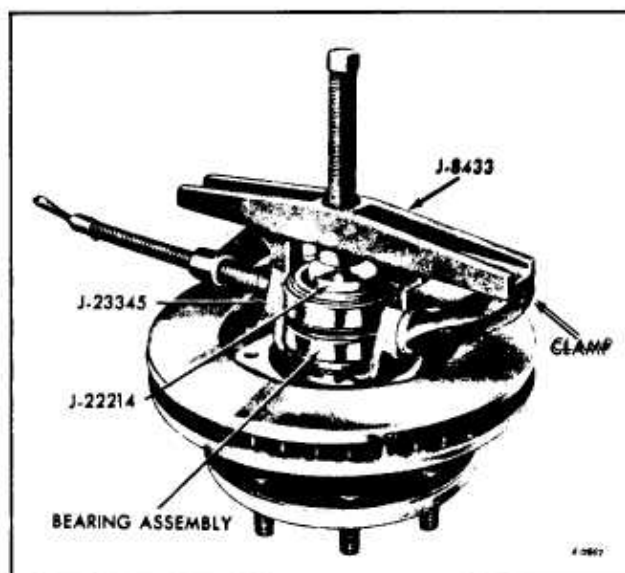

Figure 9-Bearing Removal
3. Position tool assembly as shown in Figure 9.
4. With Tool No. J-22214-6 in place, and a clamp in position as shown in Figure 9, tighten center screw until bearing is free of hub.